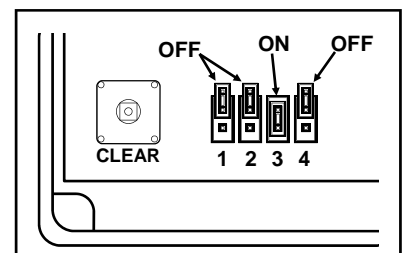

Fig 1. CLEAR Button and Jumpers
6. Connect the battery (a chirp will sound; this chirp will confirm that power is connected properly). **Important:** Press the small **CLEAR** button at the lower-left corner of the circuit board (see Fig. 1).
8. Select jumper options (J1 - J4) as follows: Refer to Fig. 1; the unit is factory supplied with the Annunciator option enabled (J3 installed) and 2-Minute Shutdown alarm selected (J4 removed).